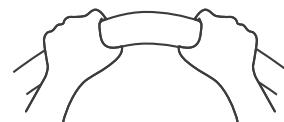

Fig. 13 —Bend Tubing
1. Carefully bend the tubing in the middle according to Fig. 13.